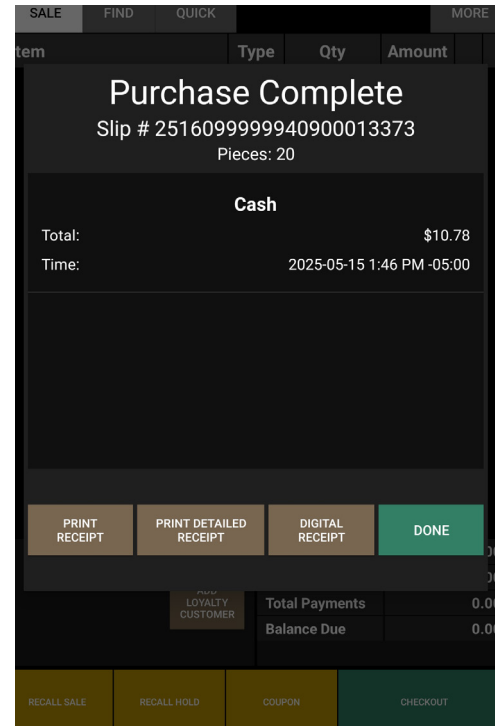

Figure 65
1. Once payment is complete, the Purchase Complete (Figure 65) screen will appear. You may now choose how to deliver the receipt: